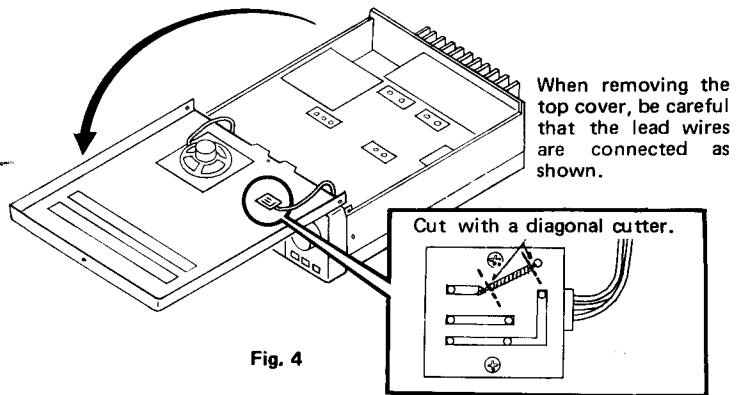

Fig. 4
2. Slide the cover about 1 inch to the rear, and swing forward as shown in Fig. 4